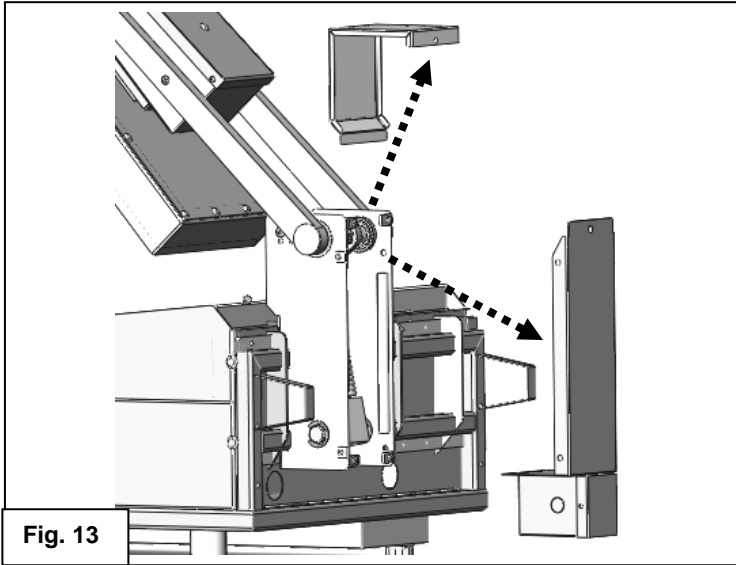

Fig. 13
15. Remove top and rear spring armature covers. Set into place in the raised position. Fig. 13.